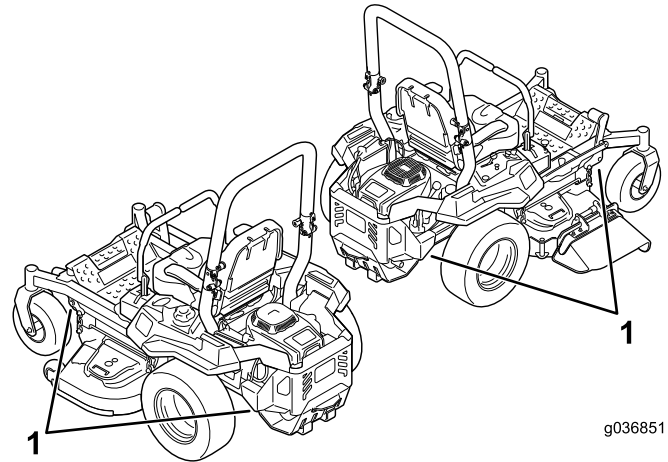

Figure 35
5. Use the metal tie-down loops on the machine to securely fasten it to the trailer or truck with straps, chains, cable, or ropes (Figure 35).